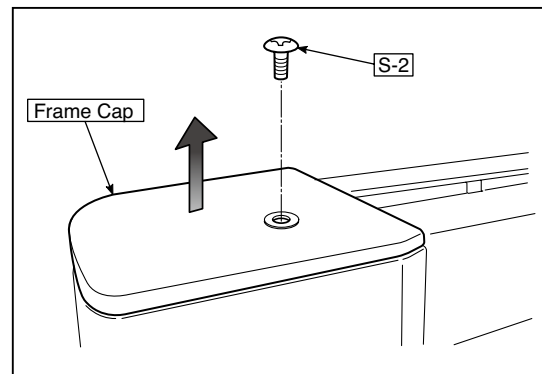

Fig.9
3) Remove the Frame Cap. (See Fig. 9.)
- 1.Remove the “S-2” screws shown in the figure 9 and then remove the Frame Cap.